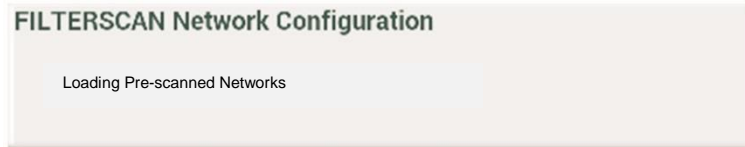

Figure 13: FILTERSCAN WiFi Network Configuration Page
13. Enter the IP address **192.168.1.1** in the URL box. You will get the FILTERSCAN Network Configuration page, displayed in Figure 13 above.